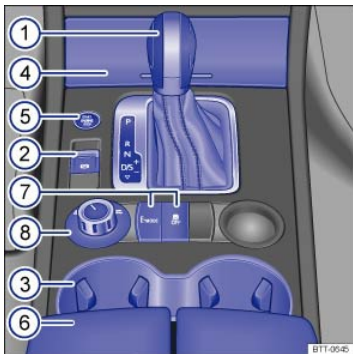

Fig. 7 Overview of lower center console (4MOTION).
**Key to ⇒ Fig. 7 :**
- ① Automatic transmission selector lever ⇒ *Shifting*
- ② Button for the electronic parking brake ⇒ *Braking and parking*
- ③ Cup holders ⇒ *Cup holders*
- ④ Storage compartment ⇒ *Storage areas*
- ⑤ Starter button for Keyless Access locking and starting system **START – STOP** ⇒ *Starting and stopping the engine*
- ⑥ Storage compartment in the center armrest ⇒ *Storage areas*
- ⑦ Button for:
- ⑧ Rotary knob for setting drive mode (On-road / Off-road) ⇒ *Off-road driving*